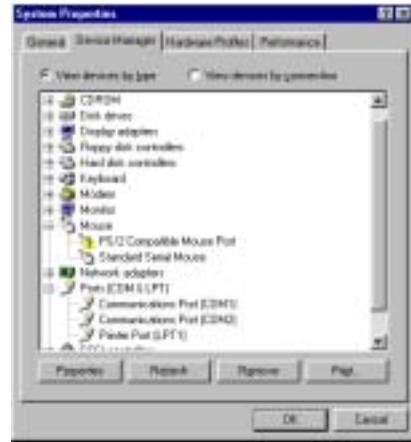

Figure 5.1 • System Properties
2. Select the Modem Icon if you are using a modem in a remote data application or if you are connecting up directly to a comm port on your PC go to the Systems Icon and under the Device Manager tab, select the comm port you are using for your System Controller (fig. 5.1).